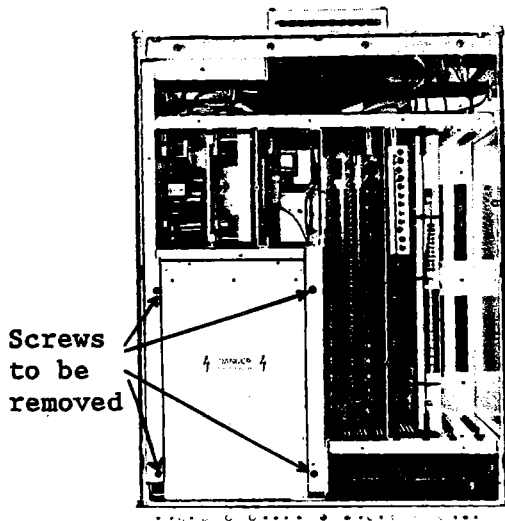

Figure 3-10. Screws to Be Removed
4. Remove the four screws on the top of the display module as indicated in Figure 3-10.